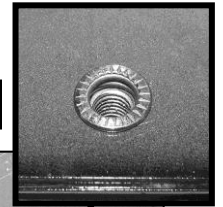
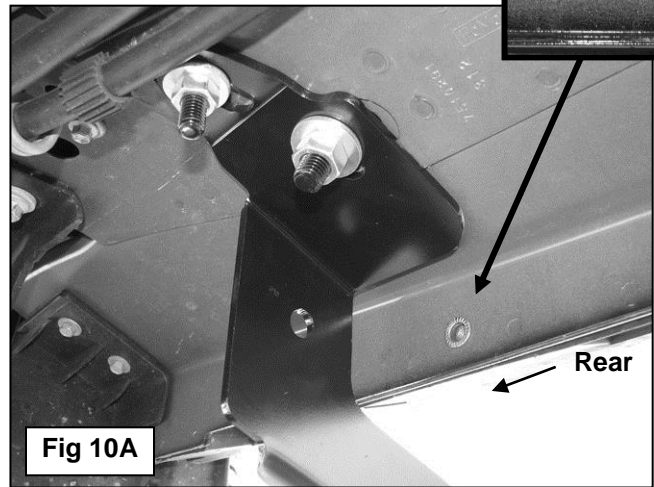

**Fig 11**
**Fig 10B**
11. Assemble the Threaded Insert installation tool as pictured in **Figure 10B**. Hold the handle and push the insert into the drilled hole in the pinch weld. **NOTE:** Insert must fit snug in hole. If necessary, use a small hammer to carefully tap the insert into the hole until the rim on the insert is flush against the pinch weld. Firmly hold the tool handle and tighten the hex bolt in the tool to expand the insert in the hole. Continue until threads are flush with the top of the insert, **(Figure 10C)**. Remove the tool and hardware. Bolt the Support Bracket to the threaded insert with (1) 8mm x 30mm Hex Bolt, (1) 8mm Flat Washer and (1) 8mm Lock Washer, **(Figure 11)**. Tighten hardware at this time.
**Use the assembled tool (Fig 10B) to hold the Insert fully in place. Tighten hex bolt in Insert until threads are pulled up to the top (rim) of the insert**